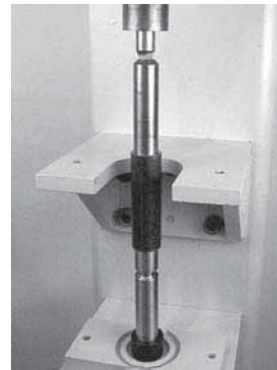

Figure 40
- Using an arbor press or similar device, press bearing onto pulley shaft (Figure 40).